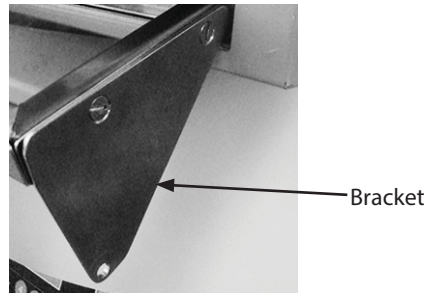

Figure 4: Bracket Installed to Oven Door
3. Install the handle bracket as shown in Figure 4, using the screws removed in step 2.